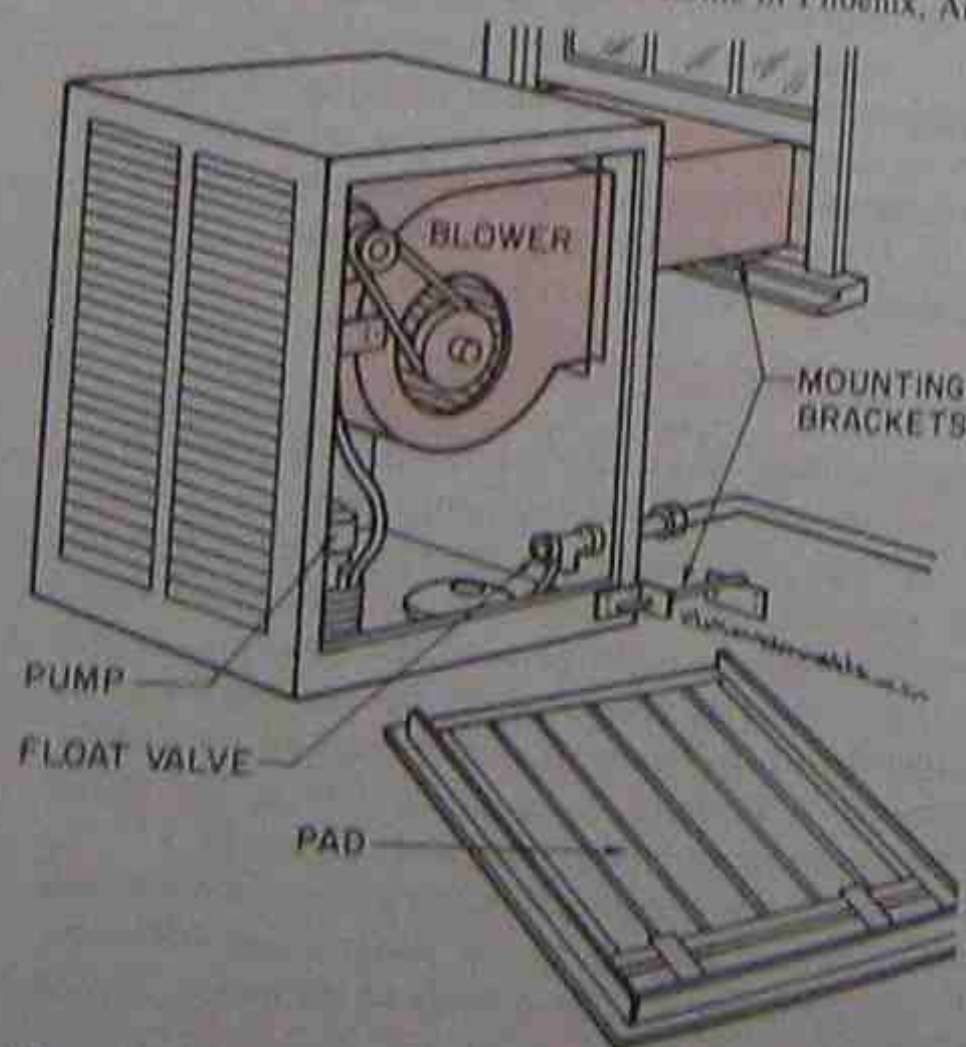

Figure 38-5. Evaporative cooler.
Air has been conditioned in more than one way to achieve comfort. In the climates where the humidity is low, a device called an *evaporative cooler*, Figure 38-5, has been used for years. This device uses a fiber mounted in a frame with water slowly running down the fiber as the cooling media. Fresh air is drawn through the water-soaked fiber and cooled by evaporation to a point close to the wet bulb (WB) temperature of the air. The air entering the structure is very humid but cooler than the dry bulb (DB) temperature. For example, in Phoenix, Arizona, the design dry bulb temperature in summer is 105°F. At the same time the wet bulb temperature may be 70°F. An evaporative cooler may lower the air temperature entering the room to 80°F DB. 80°F air is cool compared to 105°F, even if the humidity is high.